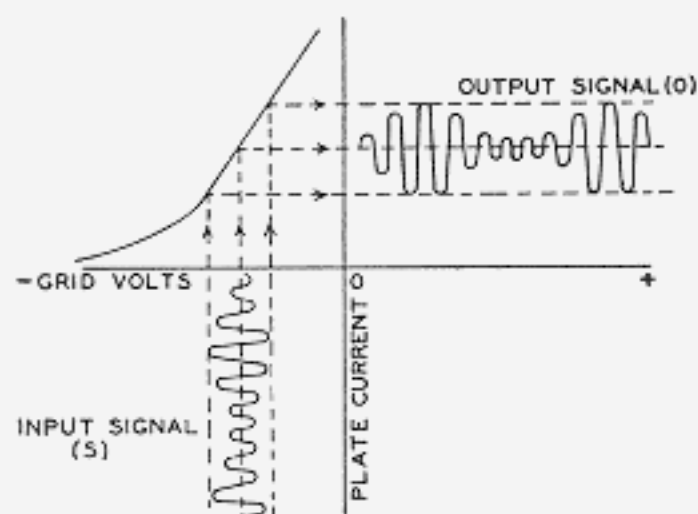

Fig. 3
As a **voltage amplifier**, a radio tube is used to reproduce voltage variations in the plate circuit. These variations are essentially of the same form as the input signal voltage impressed on the grid, but of increased amplitude. This is accomplished by operating the tube at a suitable grid bias so that the applied grid input voltage produces plate current variations proportional to the signal swings. The use of tubes in this manner is broadly identified as Class A service. Since the power controlled in the plate circuit is much larger than that required to swing the grid potential, amplification of the signal is obtained. Fig. 3 gives a graphical illustration of this method of amplification and shows, by means of the grid voltage vs. plate current characteristic, the effect of an input signal (S) applied to the grid of a tube. (O) is the resulting amplified plate current variation.